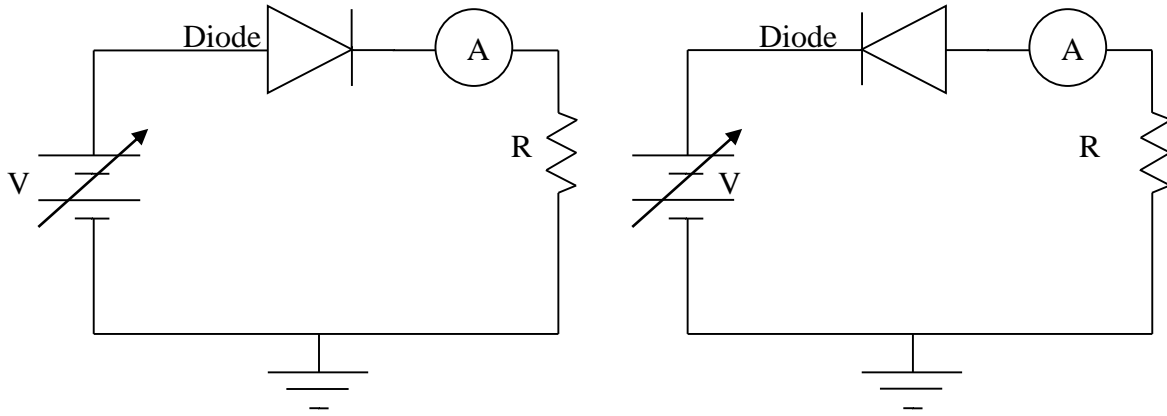

Fig 2.1 Forward Biased diode and Reverse Biased diode
- 2.Connect power supply with the diode as shown in the Fig 2.1.
- 1.Reverse diode position for reverse bias as shown in Fig 2.1.